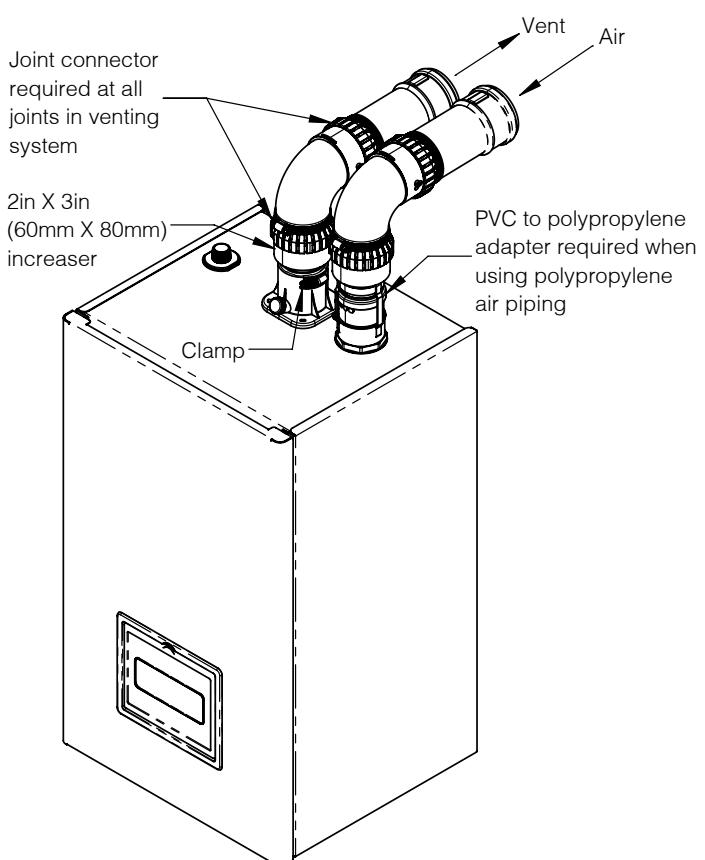

Figure 7-19: Near Boiler Polypropylene Venting with Increaser
9. Vent and air can be up-sized to 3 in. for longer runs. Requires 2 x 3 in. polypropylene increaser. Vent increaser must be directly attached to boiler vent connector and must be installed in vertical section of pipe. If using polypropylene air piping, increaser must be directly attached to PVC to polypropylene adapter and must be installed in vertical section of pipe. See Figure 7-19.